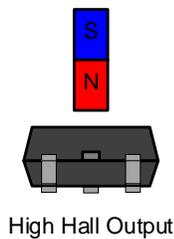

Figure 12: High Hall Output with Approaching North Pole
- If the Hall sensor output is high when the north pole is close to the Hall sensor's branded side (see Figure 12).